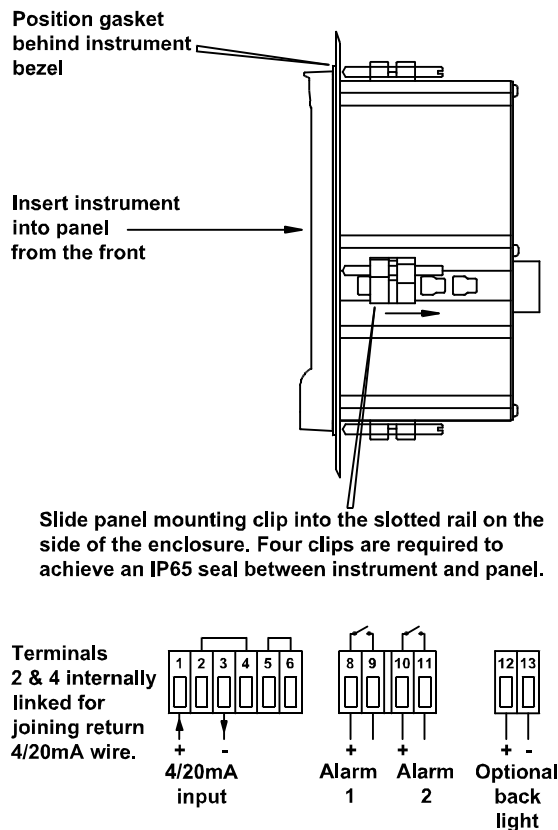

Fig 5 Installation and terminal connections
Fig 5 illustrates the instrument installation procedure.
- Fix panel mounting clips to the sides of the BA326C and tighten until the instrument is secure - see Fig 5. Recommended torque 22cNm (1.95 lbf in) **Do not over tighten**. If an IP65 seal is required between the enclosure and the instrument panel, four panel mounting clips must be used.
- Connect the panel wiring to the rear terminal block(s) as shown in Fig 5. To simplify installation the terminals are removable so that the wiring can be completed before the instrument is installed.